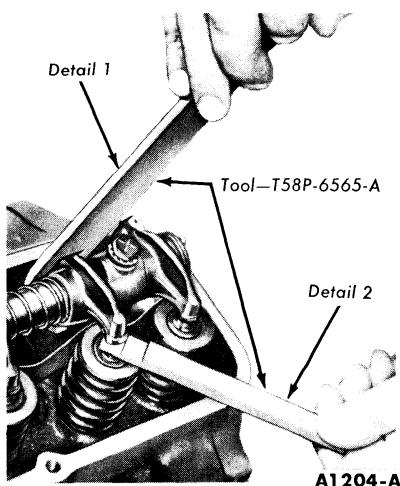

FIG. 3—Valve Clearance—Hydraulic Valve Lifters
1. Position the crankshaft as outlined in steps 2 and 3. Position the hydraulic lifter compressor tool on the rocker arm and slowly apply pressure to bleed down the hydraulic lifter until the plunger is completely bottomed (Fig. 3). Hold the lifter in the fully collapsed position and insert the clearance gauge (Fig. 3) between the valve stem and the rocker arm of the valve being checked. If the first step of the gauge enters, the old push rod may be used. If the first step will not enter, replace the standard push rod with a shorter service push rod. If the second step of the gauge enters, the operating range of the lifter is excessive which indicates that the incorrect push rod has been in-
Upon replacement of a valve push rod and/or valve rocker arm shaft assembly, the engine should not be cranked or rotated until the hydraulic lifters have had an opportunity to leak down to their normal operating position. The leak-down rate can be accelerated by using the tool shown in Fig. 3 on the valve rocker arm and applying